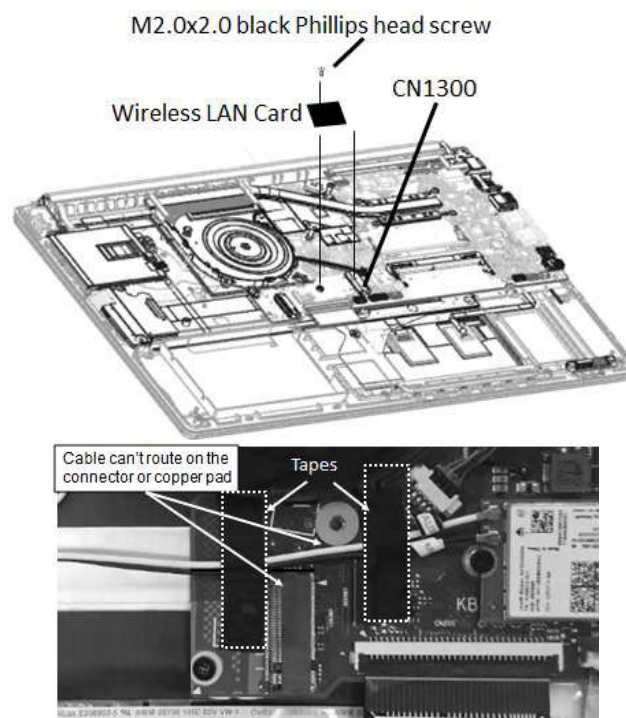

Figure 4-8 Removing wireless LAN Card
Remove wireless LAN Card according to the following procedures and Figures 4-8.
Install Wireless LAN Card according to the following procedures and Figures 4-8.
4. Route antennacables according to Figures 4-8, avoid to pinching the cables.
5. Stick tape to fasten antennacables according to Figures 4-8, avoid to stick on connector or copper pad.